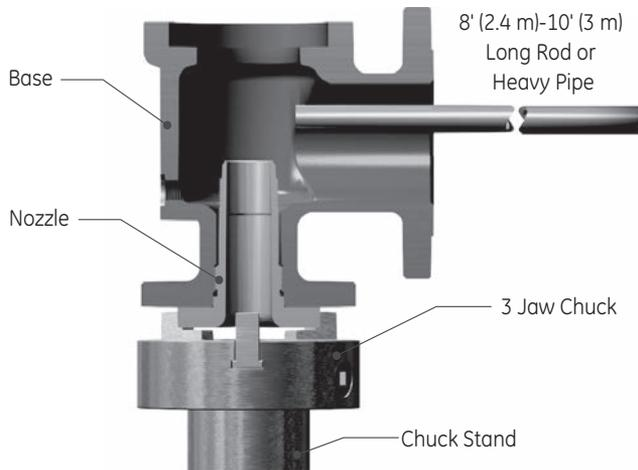
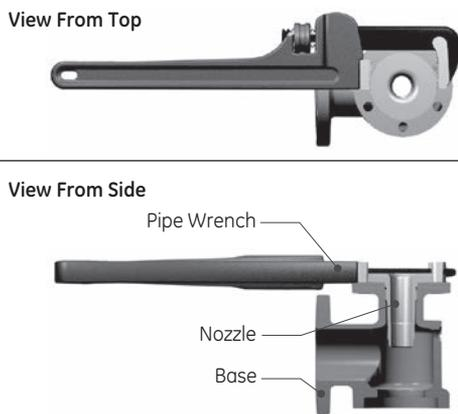

Figure 31: Loosening the Nozzle from the Base
Figure 32: Removing the Nozzle from the Base
- Use a large pipe wrench on the nozzle flange to remove the nozzle from the base (Figure 31).
- Remove the Nozzle from the Valve Base as suggested in Figure 31, or by using a Hex wrench or a pipe wrench on the flange as indicated in Figure 32.